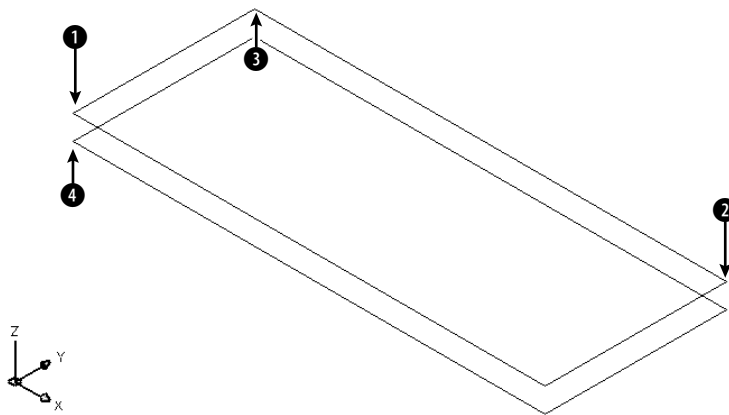
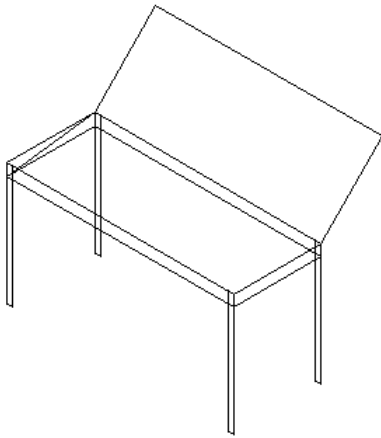

Figure 21-7: The two rectangles, shown from Southeast Isometric view.
Figure 21-8: The completed wireframe piano bench.
5. Choose **View** ⇨ **3D Views** ⇨ **SE Isometric**. Now you can see the two rectangles, as shown in Figure 21-7.
Specify first point: *Pick the endpoint at ❶ in Figure 21-7.*
11. To draw an open cover for the piano bench, start the LINE command. Start it at the endpoint at ❷ in Figure 21-7. At the **Specify next point or [Undo]:** prompt, type **@15<90<45** ↵. You know the length of the line because the cover is the same as the width of the piano bench. At the **Specify next point or [Undo]:** prompt, turn on ORTHO, move the cursor parallel to the length of the bench, and type **39**. At the **Specify next point or [Close/Undo]:** prompt, use the Endpoint object snap to pick ❸. End the LINE command. Zoom out and pan so you can see the entire bench.
12. To draw some bracing inside the bench, start the LINE command again. At the **Specify first point:** prompt, choose the endpoint at ❹. At the **Specify next point or [Undo]:** prompt, type **@15<90,2** ↵. End the LINE command. Here, cylindrical coordinates are ideal because you don't know the length of the line but you know the change in the X and Z coordinates (the width and the height of the bench's body, respectively).
13. Save your drawing. It should look like Figure 21-8.